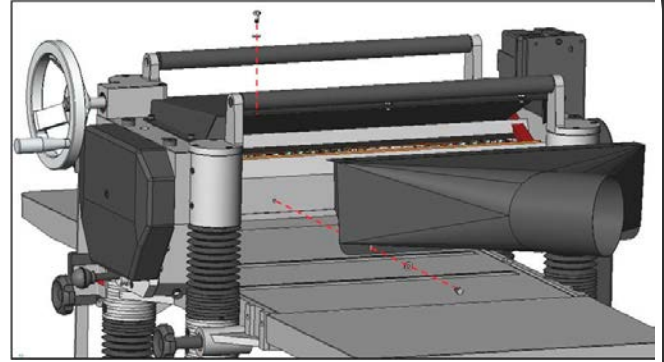

Fig. 4
3. Always turn on the dust collection system before starting the planer. (Fig. 4).